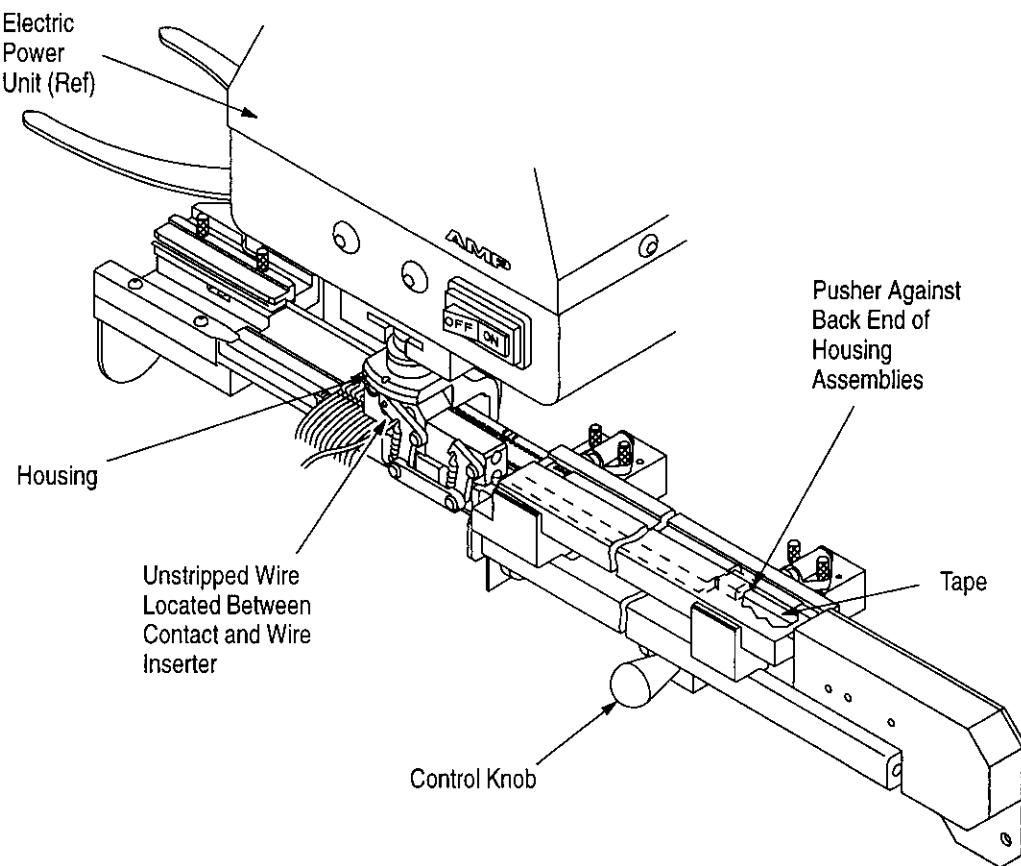

Figure 5
6. Move control knob to the right so that the pusher is against the back end of the housing assemblies. Refer to Figure 5.
7. Move control knob to the right so that the pusher is against the back end of the housing assemblies. Refer to Figure 5.
4. Insert unstripped wire into the funnel area (located between the contact and the wire inserter) until it bottoms on the wire guide. See Figure 5.
Advancement of the connectors is performed by a thin metal tape (PN 764975-3 – see Figure 5) that is similar to the tape blade of a pocket-size tape measure. This tape may become bent or kinked over time and should be replaced, when necessary, to ensure smooth connector feed operation. Refer to Figure 8 and use the following procedures for tape replacement.